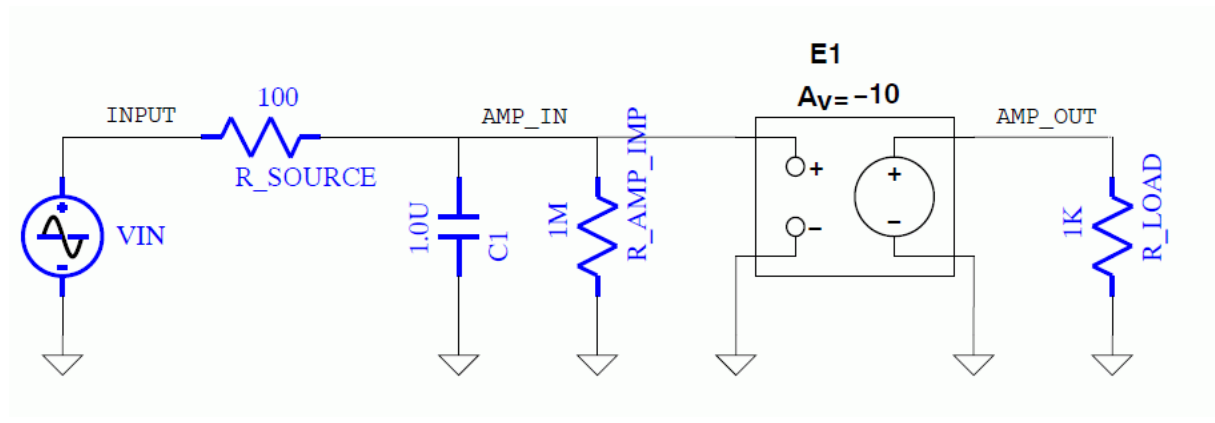

Figure 26.1: Example Circuit 1
assignment of alphanumeric identifiers to each circuit node, the assignment of component identifiers to each circuit device, and the definition of the significant parameters for each device. For example, the circuit description below shows the equivalent input file for the circuit shown in Fig. 26.1.
**Subcircuits** In some applications, describing a device by embedding the required elements in the main circuit file, as is done for the amplifier in Fig. 26.1, is not desirable. A hierarchical approach may be taken by using subcircuits. An example of a subcircuit statement is shown in the second circuit file: